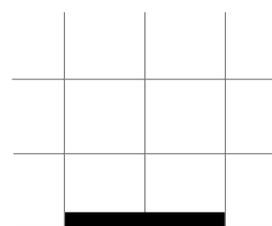

Fig. 3
**Notes:** Write them so that the horizontal lines in the upper and lower positions are put in the ruled lines as shown in Figure 3.